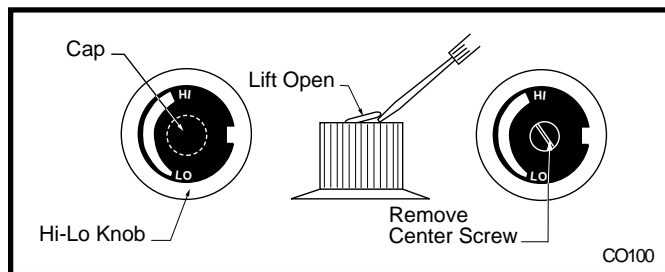

Fig. 21 Removing center screw from Hi/Lo knob.
3. Remove cap from Hi/Lo knob. This can be accomplished by lifting the plastic cap off the screw. (Fig. 21)
4. Remove the screw from center of Hi/Lo knob with small screwdriver turning counterclockwise. (Fig. 21)